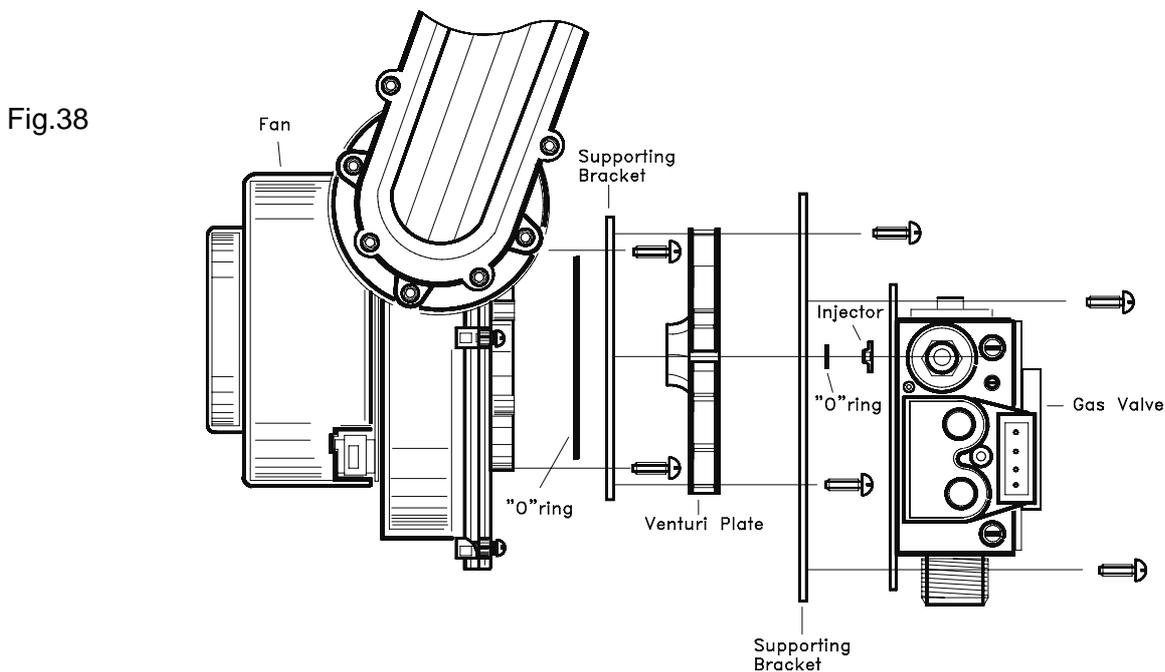

Fig.38
**8.8 TO REMOVE/REPLACE GAS CONTROL VALVE AND OR VENTURI PLATE . (Fig.38).**